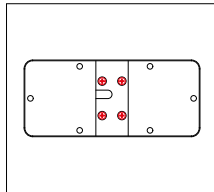
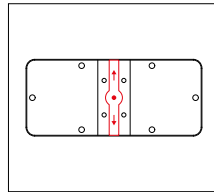

Fig. 4: Base plate
Fig. 5: Cable direction
1. Decide in which direction you want to route the cable from the valve block. By removing the base plate (Fig. 4), the cable can be positioned (Fig. 5) accordingly and secured.
When mounting the sensor on the tank, ensure that the pressure sensor is installed in the upper area of the tank. Also, make sure that the electrical connection on the pressure sensor does not point downwards (Fig. 5). Otherwise, the sensor can be damaged by condensate settling in the tank.